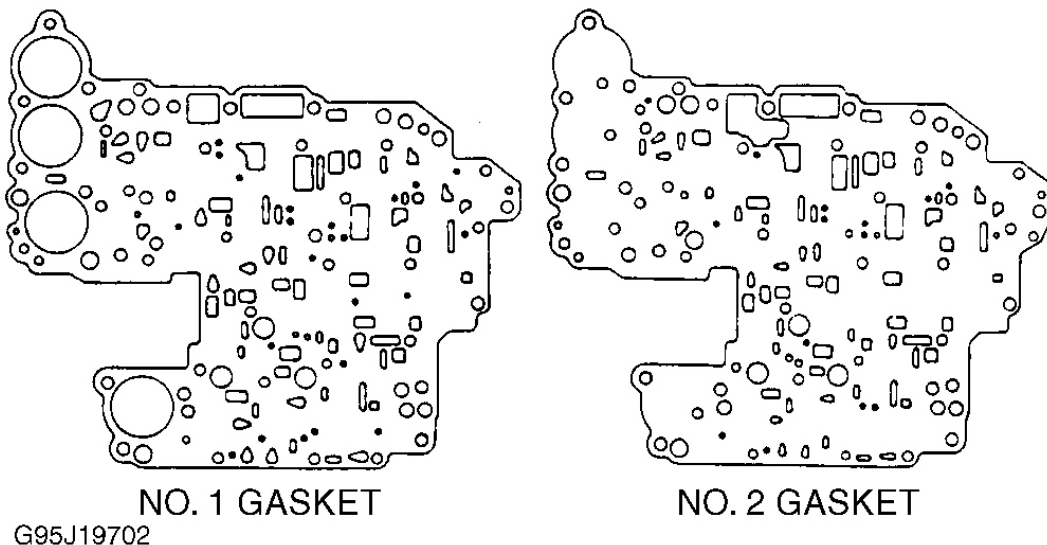

Fig. 47: Identifying Valve Body Gaskets
1. Coat all components with ATF. To reassemble, reverse disassembly procedure. Position NEW No. 2 gasket, plate and NEW No. 1 gasket on lower valve body. Ensure gaskets are installed in correct locations. See **Fig. 47**.